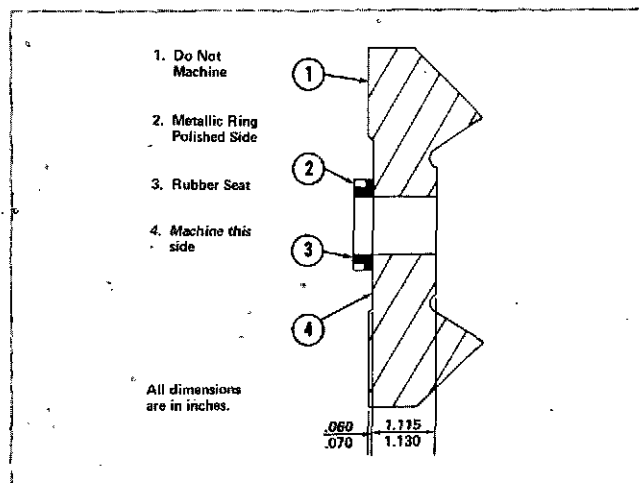

Fig. 8-1-4, V40823. Old style impeller conversion
3. Machine the ceramic seat surface to the dimensions shown in Fig. 8-1-4. Only the "boss" which forms the old-style seat area is to be removed.